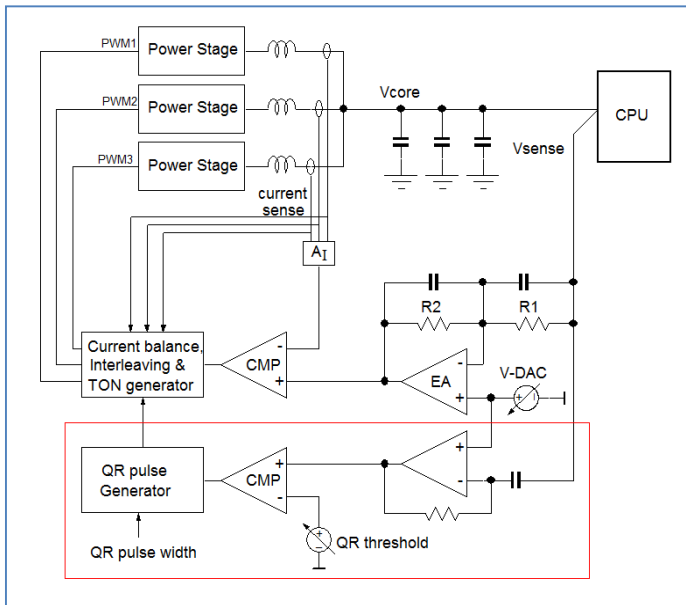
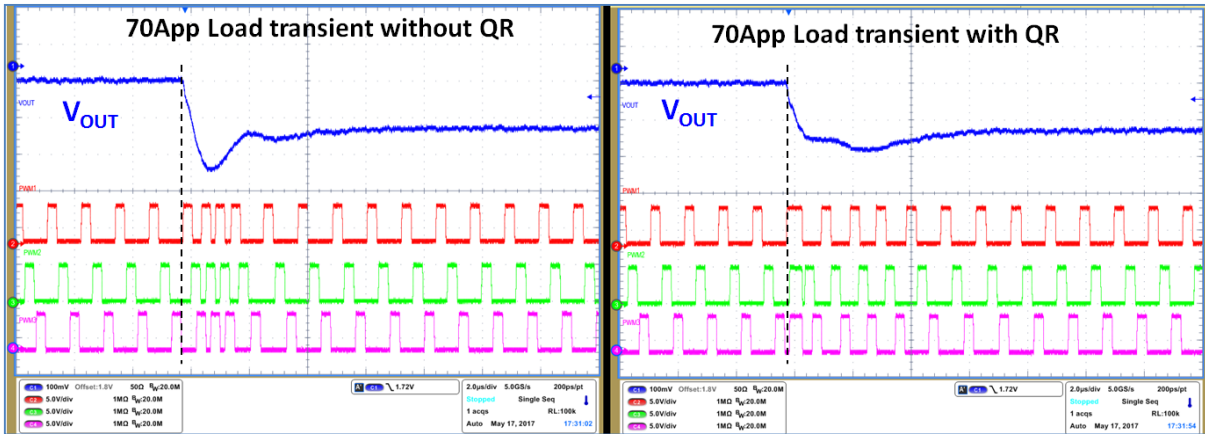

FIGURE 7: CONTROL LOOP WITH ADDITIONAL QR NETWORK
FIGURE 8: LOAD TRANSIENT WITHOUT AND WITH QR
To improve the load transient handling capability, Richtek VCORE controllers apply an additional QR network to the CM-COT control loop as shown in figure 7.
To increase the response speed and energy transfer during load transient, Richtek VCORE controllers include a separate Quick Response (QR) loop (shown in the red block of figure 7). This loop will quickly detect when the output voltage suddenly drops, and will force all phases to generate a simultaneous ON pulse. The Quick Response detection threshold and Quick Response ON time are programmable via pin setting. This makes it possible to fine tune the power stage behavior to the load step and minimize output voltage undershoot during large load transients. Figure 8 shows a 3-phase converter step response without QR (relying only on the error amplifier loop) and with QR enabled (where the QR network temporarily bypasses the error amplifier loop). It can be clearly seen in figure 8 right side that with QR enabled, the converter reaction time is faster, and the simultaneous activation of all phases with an increased QR ON time pulse will increase the short-term energy transfer, thereby greatly reducing the output voltage undershoot.